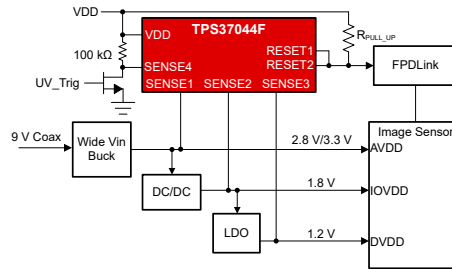

图 8-4. TPS37044F-Q1 Quad-Channel Monitoring With Manual Self-Test Option for Functional Safety
图 8-4 displays a self-test scheme where a manual self-test function can be implemented. Any SENSEx pin can be reserved and used to trigger a fault to be observed at the output, thus pre-checking the TPS3704-Q1 for fault detection. Because the TPS3704-Q1 is functional safety compliant, it helps elevate applications like the automotive ADAS camera achieve ISO 26262 requirements and automotive safety integrity levels. This example uses a TPS37044F-Q1, configured for separate undervoltage and overvoltage (UV/OV) outputs where the SENSE4 thresholds are set at 5.5 V for OV and 2 V for UV.
图 8-4 shows a self-test scheme where a manual self-test function can be implemented. SENSE4 has an overvoltage (OV) threshold that is set at 5.5 V and the undervoltage (UV) threshold set at 2 V. SENSE4 can be connected via a 100-k Ω resistor to VDD. The self-test setup gives the added benefit of a built-in overvoltage detector for the rail powering the TPS37044F-Q1. From a functional safety perspective, a voltage supervisor cannot be considered reliable if the supervisor is operating outside its recommended operated limits.